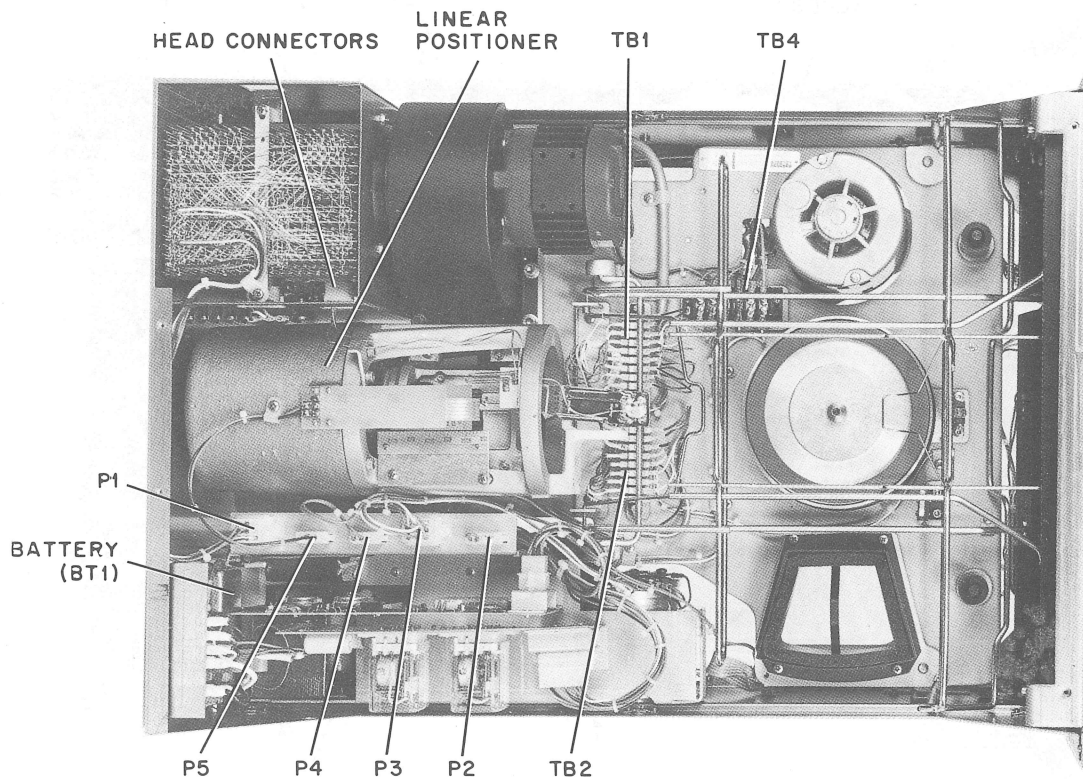

Figure 5-3 Top View with Cover Removed
5. Disconnect P5 (Figure 5-3) from the power supply chassis.
1. Carefully place the positioner on the three locating pins on top of the baseplate (Figure 5-3). Ensure that the two front pins rest against the front surface of the motor housing and the third diamond shaped pin is in the centerhole of the mounting face.
5. Connect the position transducer wires to TB1 and TB2 (Figure 5-3).
5. Disconnect the head connectors (Figure 5-3) from the electronic module.